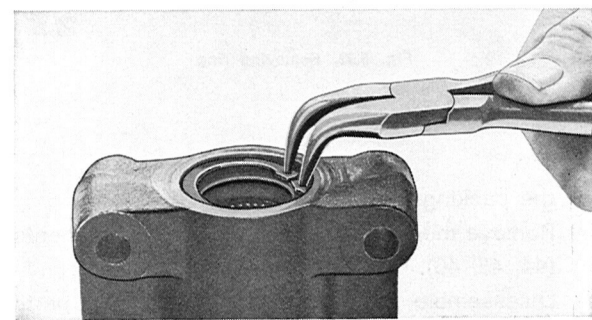

Fig. 6-80. Removing circlip
7. With a screwdriver remove the upper seal (9) in the housing. The seal should be demolished but carefully in order not to damage the bearing in the housing. Turn the housing and remove the circlip (1), see Fig. 6-80. Remove the seal (2) with a chisel. The retainer (3) for the needle bearings should only be removed if the bearing is to be replaced, see under "Inspection".